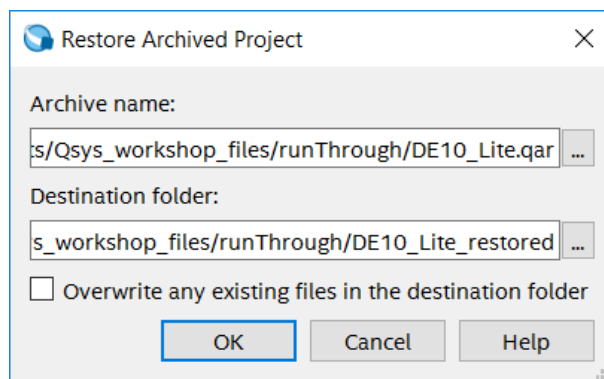

Figure 6: Selecting Archive Name and Destination Folder for the .qar file.
- ☐ Enter **Nios** in the search tab and select the **Nios II Processor** (not the Classic Nios II) from the library by double clicking. See Figure 6 on the following page for example.